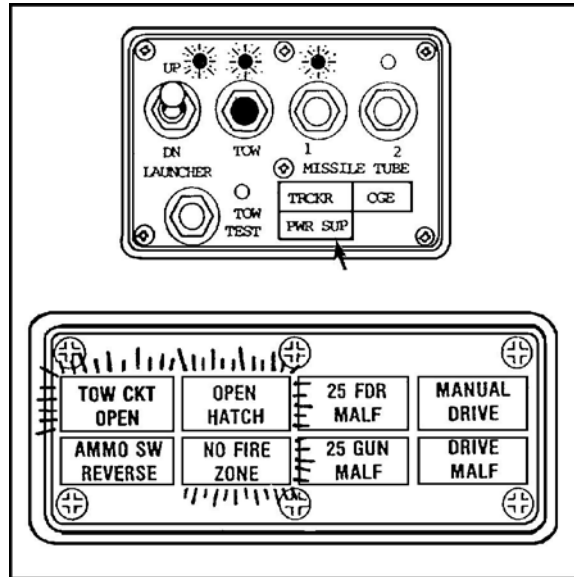

Figure 2. M2 TOW control box and annunciator box.
- b. If no annunciator light comes on, reselect the misfired TOW missile. Press the missile tube button on the TOW control box that was pressed the first time (Figure 2).
Note: There are two kinds of TOW control boxes and annunciator lights. Step 3 applies to both. The M2 control box is used in Figure 2.